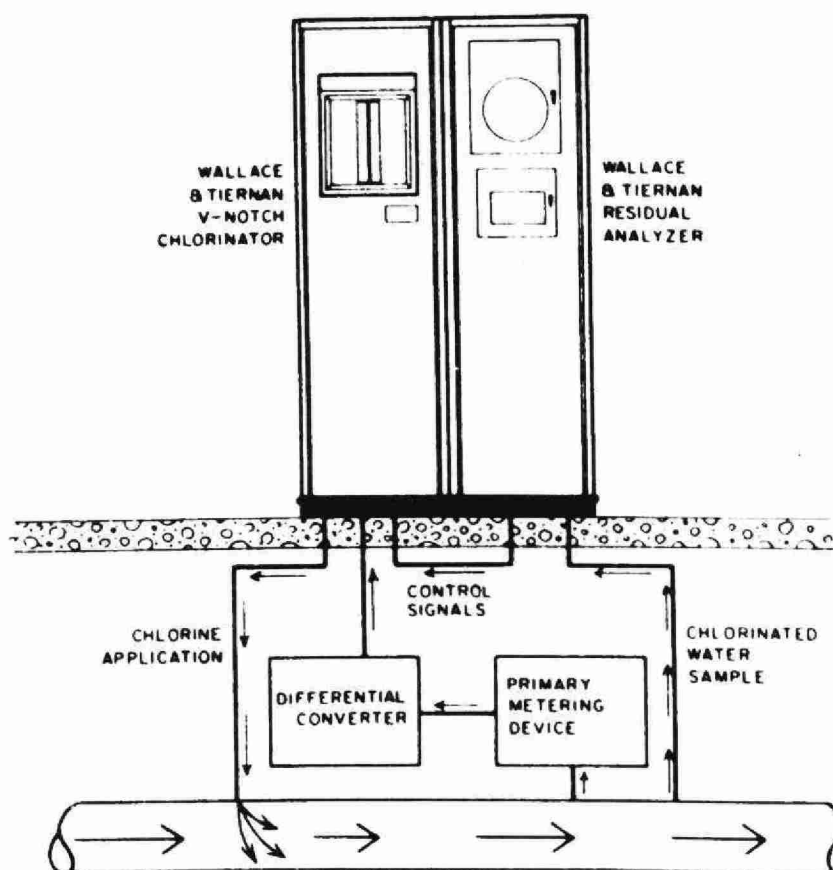

FIG. 3-4 COMPOUND - LOOP CONTROL.
4. COMPOUND LOOP CONTROL (see Fig. 3-4)